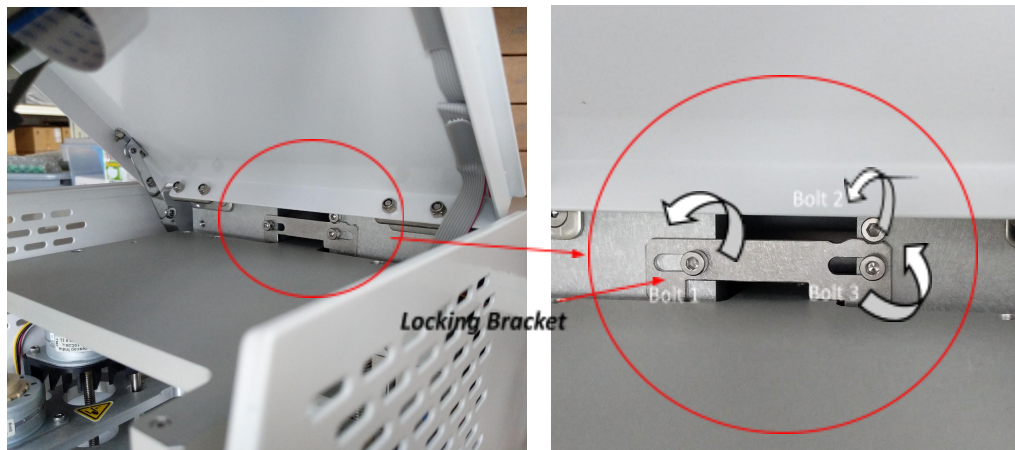

Figure 3-3: Loosen bolts to move locking bracket to the right.
2. Connect a buffer inlet bottle cap onto a 2L glass bottle containing the wash buffer of choice, as shown in Figure 3-3 below.